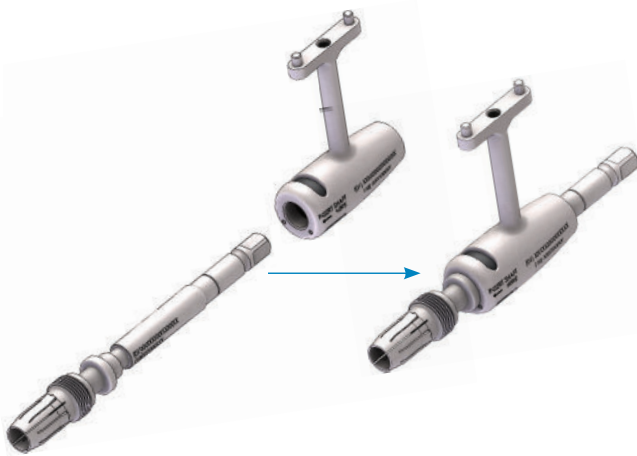

Figure 1
- To ensure proper assembly of the array adaptor, the shaft must be inserted from the end of the array holder where the button will be closest to the chuck end of the shaft (Figure 1). An "INSERT SHAFT HERE" laser marking can be seen on the holder to ensure proper assembly.